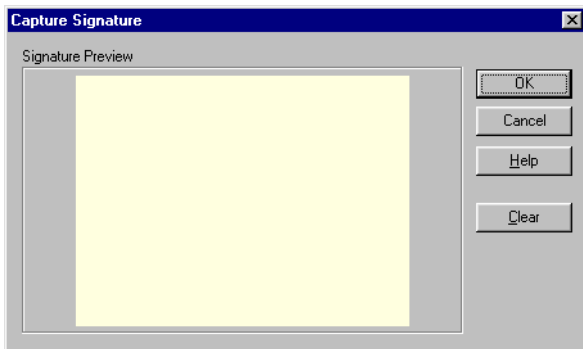

Figure 30: Capture Signature
- Click the button and the Capture Signature window appears (see Figure 30).